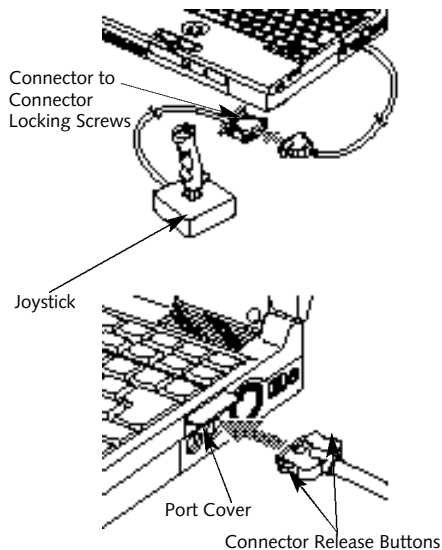

Figure 4-13 Installing a MIDI/joystick Device
3. Open the MIDI port cover on the right side panel of your notebook, (Figure 4-13), by gently pulling on the bottom edge of the cover and lifting it up.
4. Align the connector of the adapter cable with the connector towards the body of your notebook. (Figure 4-13.)
3. Squeeze the releases on the sides of the MIDI device connector together. (The connector is next to the body of your notebook.) (Figure 4-13.)